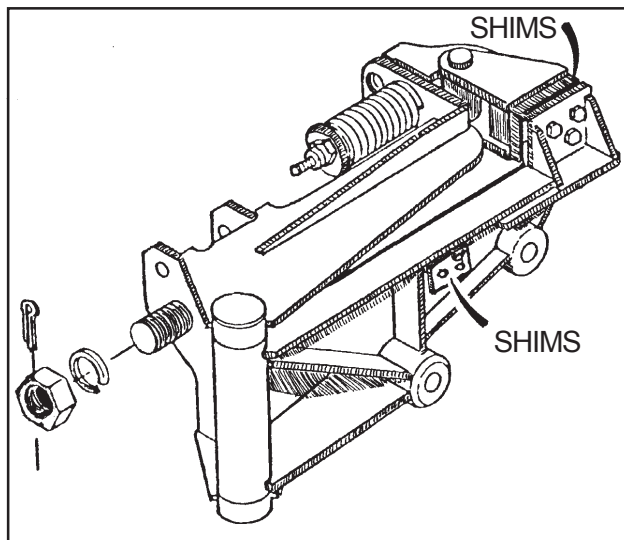

FIGURE 23
8. Remove the knuckle bolt & knuckle (only if needs to be replaced). (See Fig. 23 & 24, next page)
LATCH SPRING BREAK-A-WAY: (3500 Model) Figure 23